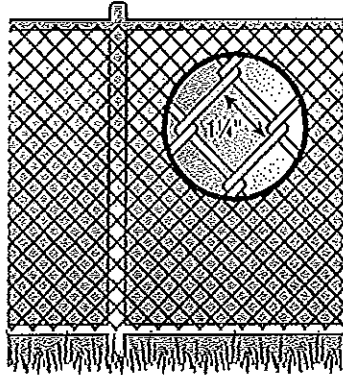

Figure 5
8. Maximum mesh size for chain link fences should not exceed 1¼ inch square unless the fence is provided with slats fastened at the top or the bottom which reduce the openings to no more than 1¾ inches (figures 5 and 6).